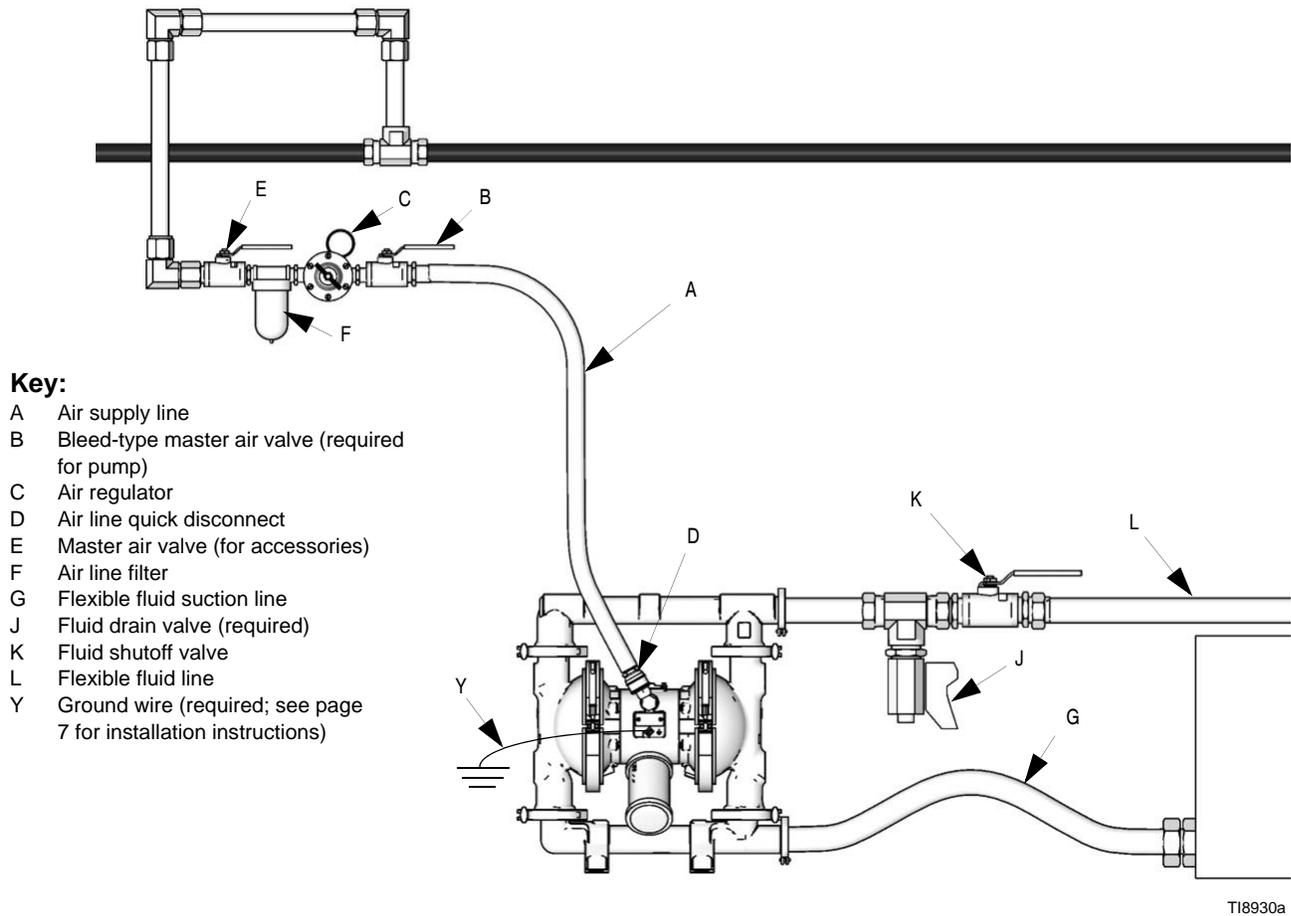

FIG. 2 Typical Floor-Mount Installation
A bleed-type master air valve (B) is required in the system to relieve air trapped between this valve and the pump. Trapped air can cause the pump to cycle unexpectedly, which could result in serious injury, including splashing in the eyes or on the skin, injury from moving parts, or contamination from hazardous fluids. See FIG. 2.
1. Install the air line accessories as shown in FIG. 2. Mount these accessories on the wall or on a bracket. Be sure the air line supplying the accessories is grounded.
- a. Install an air regulator (C) and gauge to control the fluid pressure. The fluid outlet pressure will be the same as the setting of the air regulator.
- b. Locate one bleed-type master air valve (B) close to the pump and use it to relieve trapped air. See the **WARNING** above. Locate the other master air valve (E) upstream from all air line accessories and use it to isolate them during cleaning and repair.
- c. The air line filter (F) removes harmful dirt and moisture from the compressed air supply.
<p>A fluid drain valve (J) is required to relieve pressure in the hose if it is plugged. The drain valve reduces the risk of serious injury, including splashing in the eyes or on the skin, or contamination from hazardous fluids when relieving pressure. Install the valve close to the pump fluid outlet. See FIG. 2.</p>
1. Use flexible grounded fluid hoses (L).
3. Install a fluid drain valve (J) near the fluid outlet. See the **WARNING** above, and FIG. 2.
4. Install a shutoff valve (K) in the fluid outlet line.